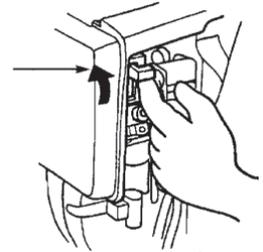

FIG 11
2. Slide choke lever up to full choke position (Fig. 11).